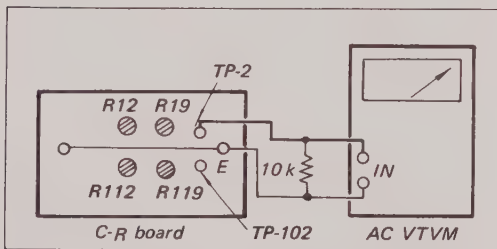

Fig. 9-1. Audio system alignment test setup
1. Connect the VTVM (or oscilloscope) to TP-2 (left channel only) on the C-R board. See Fig. 9-1.
1. Connect an ac VTVM to TP-2 on the C-R board (L-CH). See Fig. 9-1.
C-R board (R-CH). See Fig. 9-1.
2. Connect an ac VTVM to TP-2 on the C-R board. See Fig. 9-1.
6. Transfer the ac VTVM probe to TP-102 on the C-R board. See Fig. 9-1.